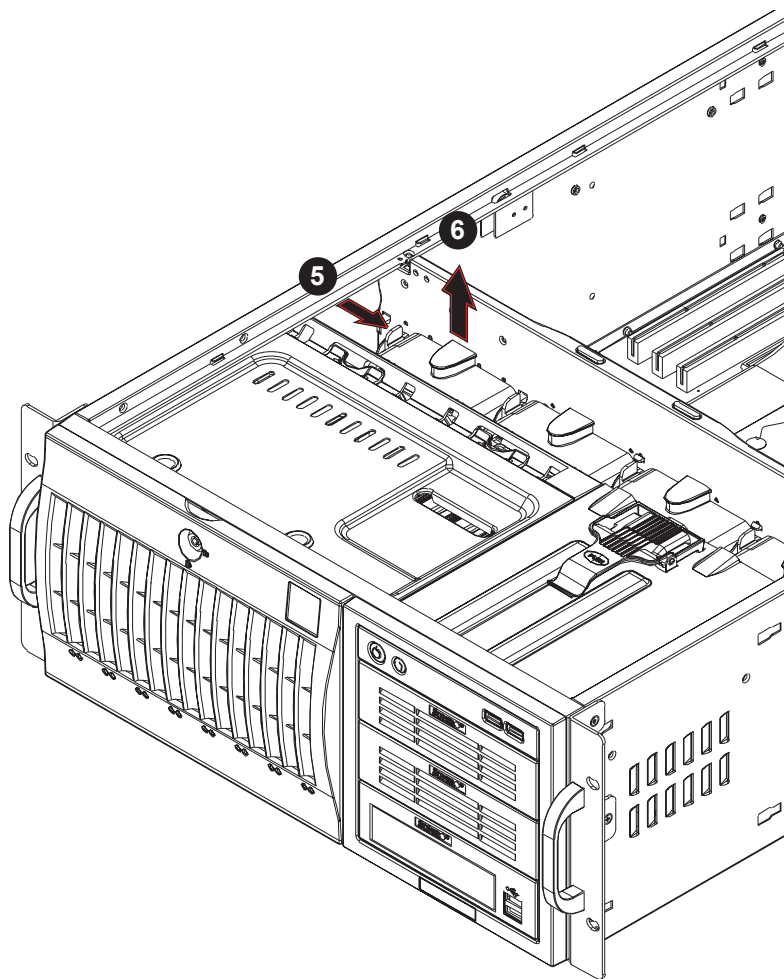

Figure 3-14. Removing a Mid-Chassis Fan
- a. On the mid-chassis fan, the locking tab is on the side of the mid-chassis fan housing. Push the tab inward. (See Figure 3-14).